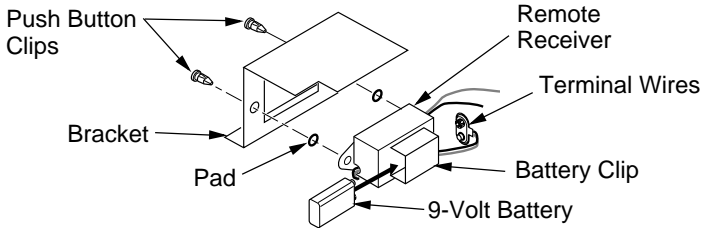

Figure 14 - Installing Remote Receiver
2. Install remote receiver into receiver bracket using push button clips provided with receiver (see Figure 14, page 11).
2. Locate the battery clip mounted on the back of the receiver (see Figure 14).